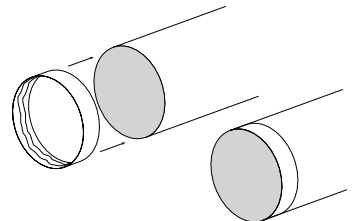

Figure 19
2. Smear white glue on the inside surface of the alignment ring. Slide the ring onto one end of the tube so that it is flush with the edge of the tube (Figure 19).